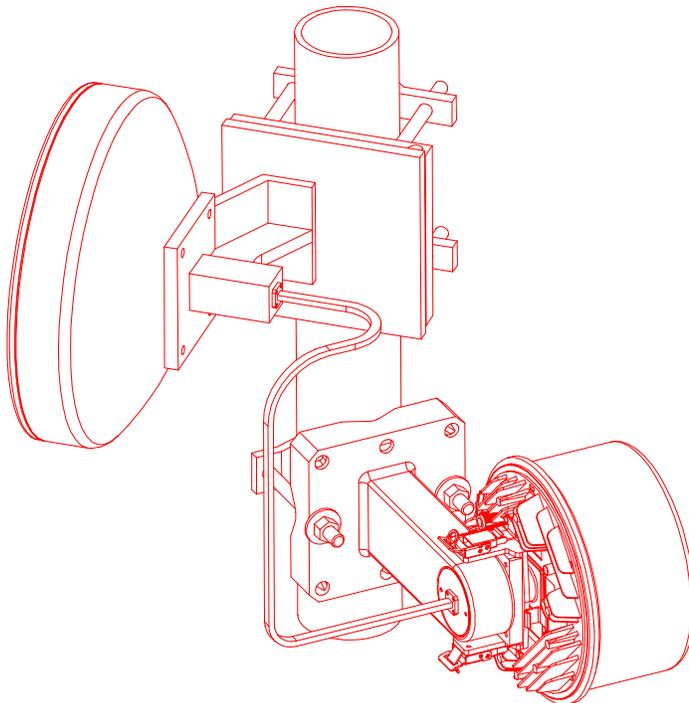

Figure 3-3. Remote Mounted ODU with Antenna
The ODU remote mount, shown in Figure 3-3, secures the ODU with latches and spring-loaded retention clips. The mount is designed for attachment to a pole of diameter between 48 mm and 115 mm (1.9 and 4.5 inches) using a V-bolt. The ODU is always attached to the remote mount in vertical polarization mode, i.e. with ODU polarization indicator positioned to point up and down.
- Step 3. Loosely assemble the V-bolt to the remote ODU mount plate using 2-each of the 1/2-13 hex nuts and 1/2" flat washers supplied in the Remote Mount installation kit (items 2 and 3). See Figure 3-3 for reference.